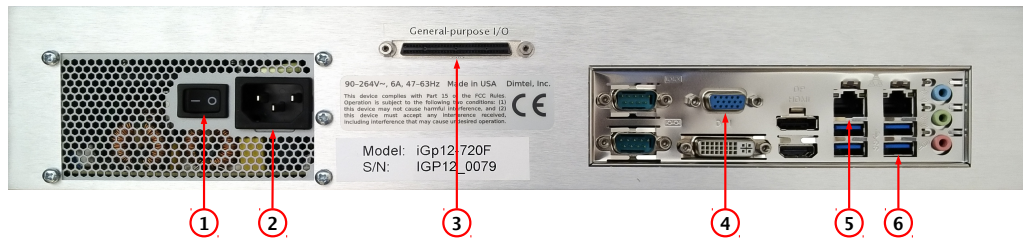

Figure 3: Rear panel features
6. Connect a USB keyboard (Fig. 3, item 4);
7. Connect a video monitor (Fig. 3, item 5);
Setup program is included in the IOC for configuring the important features of the iGp12-176F. The program can be executed locally or remotely. For local execution one must first connect a keyboard (Fig. 3, item 4) and a video monitor (Fig. 3, item 5) to the system. For remote setup, use `ssh` after system bootup to establish connection. In both setup methods the user must login as `root` (initial password is supplied with the system). If the newly received iGp12-176F must be configured remotely (when, for example, a keyboard or a monitor is not available), such configuration can be performed using a
- Make sure no cable is connected to the general-purpose digital I/O port (Fig. 3, item 3);